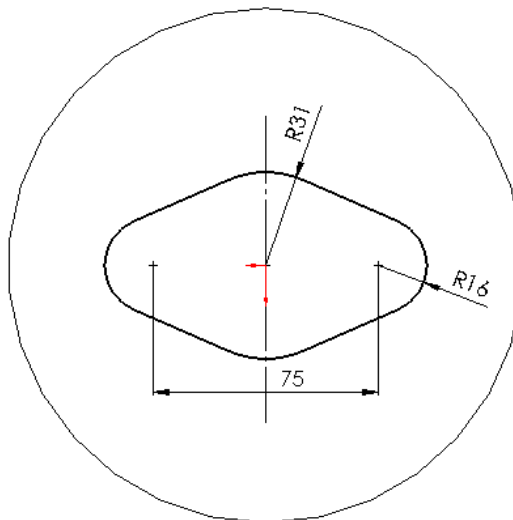

Figure 8-56 Sketch for the second feature
- b. Create the sketch of the second feature on the top face of the base feature and extrude it to the given distance, refer to Figures 8-56 and 8-57.
2. Create the sketch of the second feature and apply the required relations and dimensions to the sketch as shown in Figure 8-56. Make sure the sketch is symmetrical about the axis. If it is not, the sketch will not be properly mirrored.